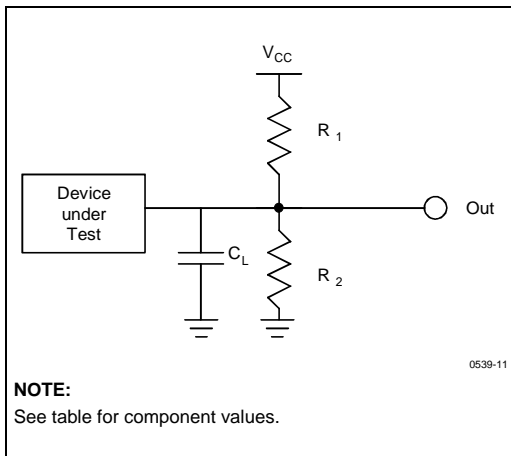

Figure 11. Test Configuration
5. See *Test Configuration* (Figure 11), 3.3 V Standard Test component values.
6. See *Test Configuration* (Figure 11), 5 V High-Speed Test component values.
7. See *Test Configuration* (Figure 11), 5 V Standard Test component values.